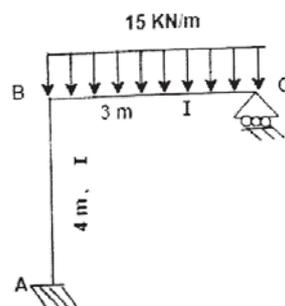

Figure 2
b) Analyze the bent shown in figure 2 by Slope Deflection Model. [5]